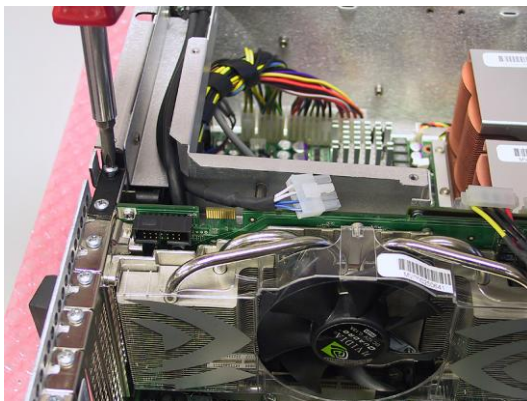
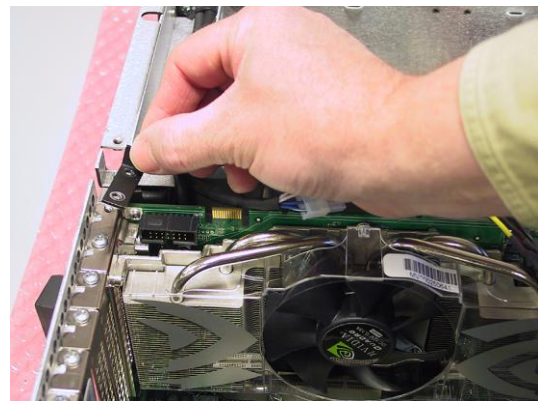

Figure 4-51
Figure 4-52
- 3) Use a Phillips #2 screwdriver to remove the two 6-32 screws attaching the card's retaining bracket – and the special linking bracket – to the inner chassis (Figure 4-51) and lift the linking bracket away from the system (Figure 4-52).